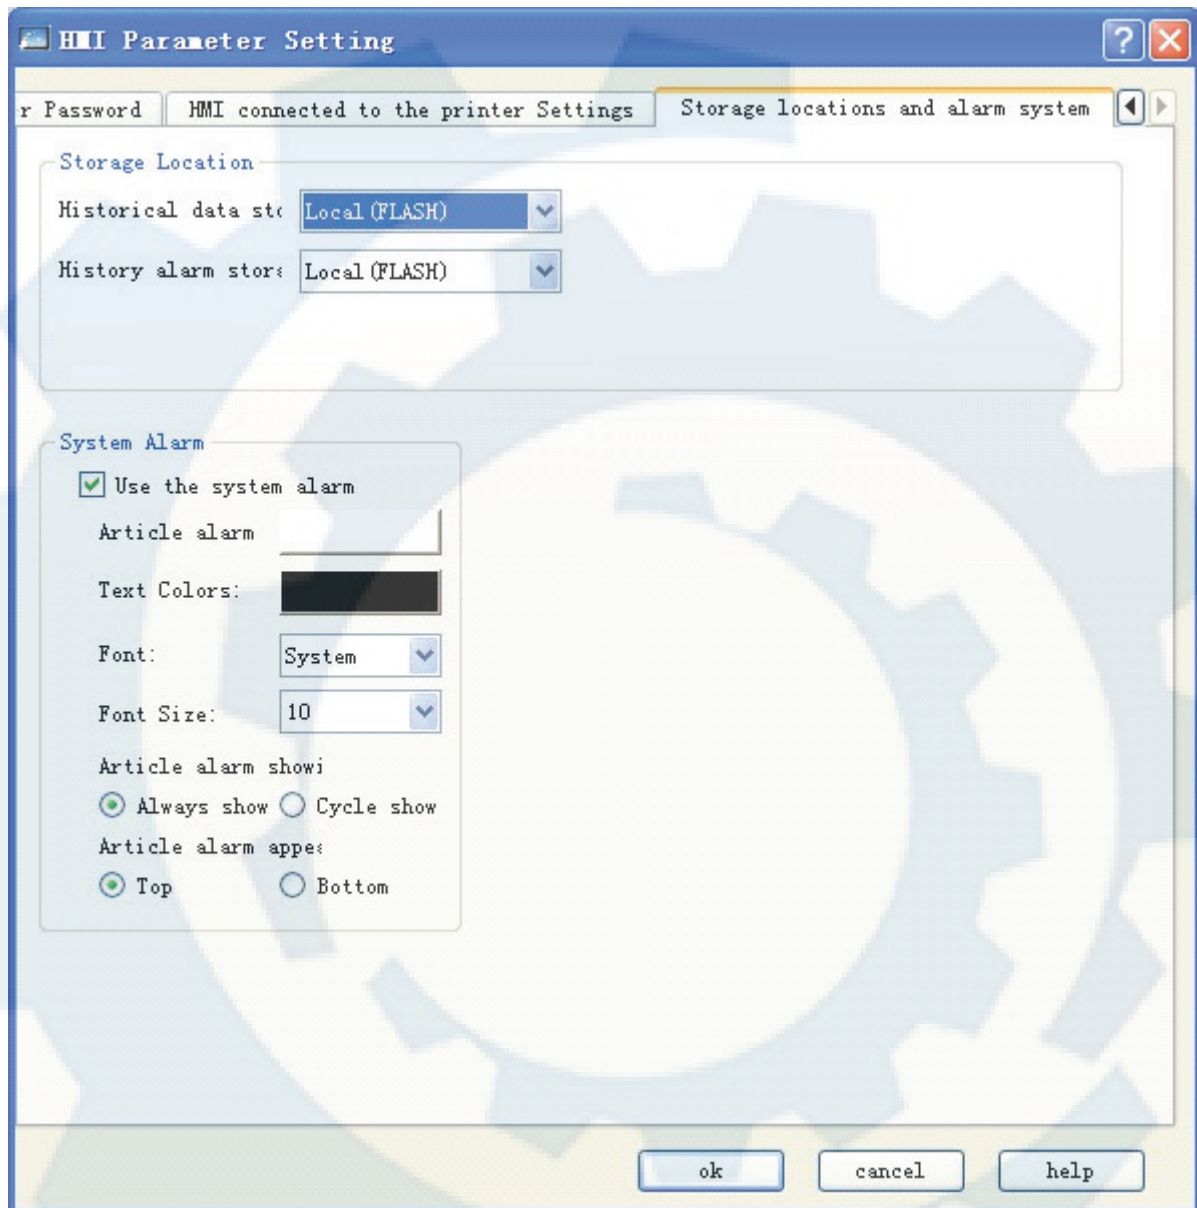

Figure 7-4 Setting page of storage position & system alarm
4. The settings of “storage position & system alarm” are shown as Figure 7-4: